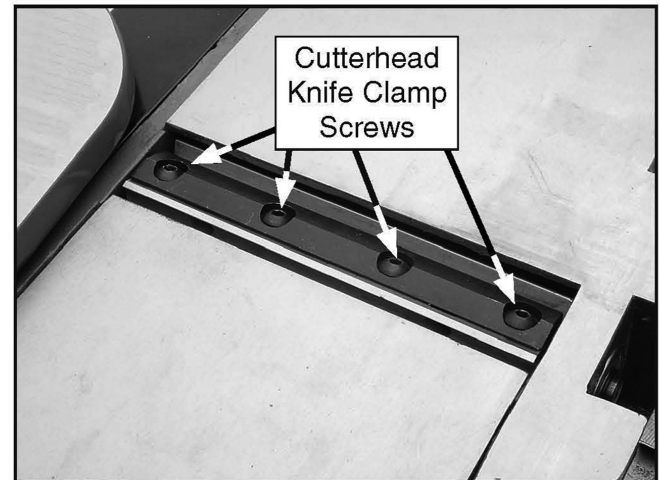

Figure 19. Cutterhead knife clamp screws.
3. Locate the knife clamp screws and knife adjustment jack screws (see **Figures 19–20**).